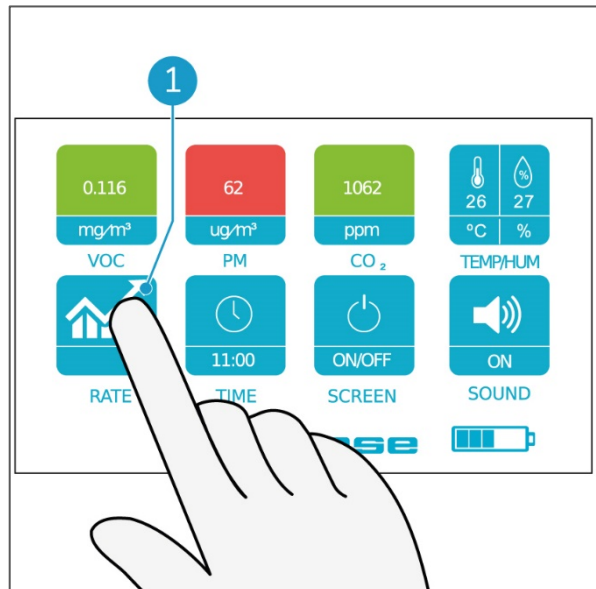

Figure 18
1. Touch the RATE button (Figure 18, pos 1) with your finger.